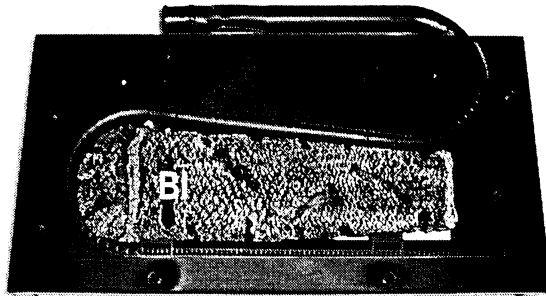

FIGURE 9A
F) LOG INSTALLATION. See Figures 9A - 9C.
1. Place the 'BI' log onto the center of the burner cover aligning the notches in the bottom of the log to the brackets in the burner cover. Fig. 9A.